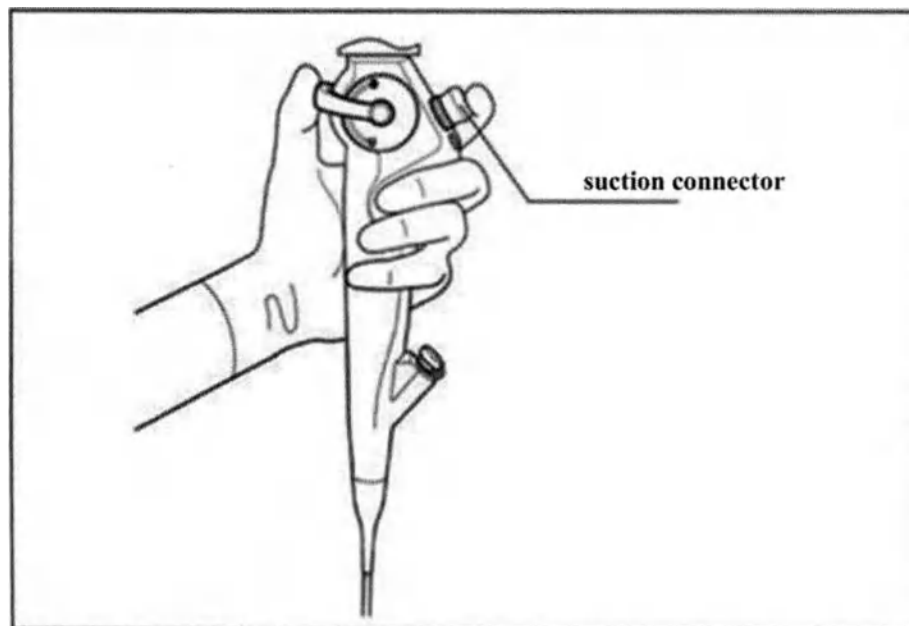

Fig 4.3
1. Depress the suction valve to aspirate excess fluid or other debris obscuring the endoscopic view. (Fig 4.3)